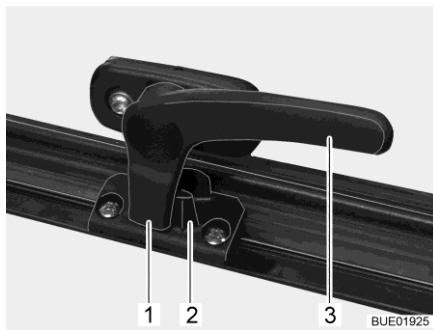

Fig. 12 Catch lever in "closed" position
- Turn the catch lever (Fig. 12,3) a quarter turn towards the centre of the window.
- Turn the catch lever (Fig. 12,3) a quarter turn towards the window frame. The locking catch (Fig. 12,1) is located on the inside of the window catch (Fig. 12,2).
- "Firmly closed" (Fig. 12).